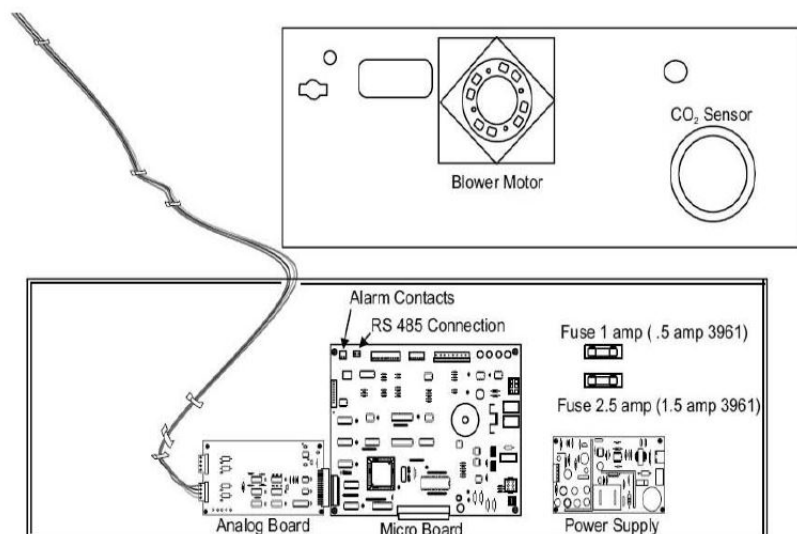

Figure 12-1 Fuse Locations
3. Refer to Figure 12-1 on page 12-1 for the location of the two fuses.